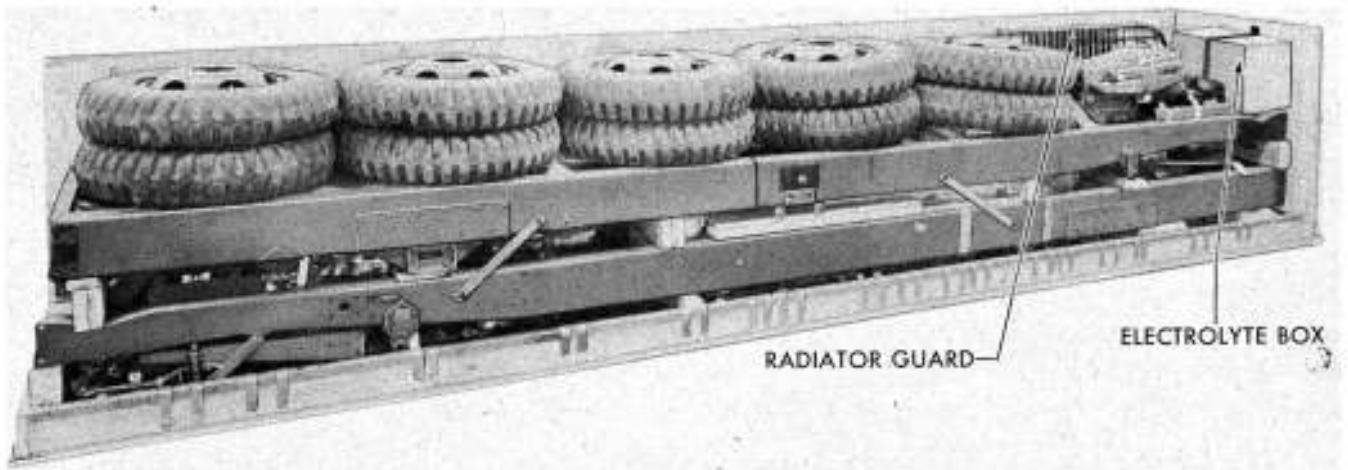

Figure 2—Frame Case with One Side, Top, and One End Removed
b. Opening Case. Cut the corner straps at the top of the case and pry off top boards. Be careful in opening cases so no parts are damaged. The packing list is fastened to inside on one end of case and should be removed as soon as possible. Check all items against list while unpacking. Cut all remaining corner straps and remove the sides and ends (fig. 2). Unfasten and remove any boxes, parts, or packages, mounted on the inside of case sides or ends. Then place the sides and ends conveniently to serve as platforms for parts and work space if needed.